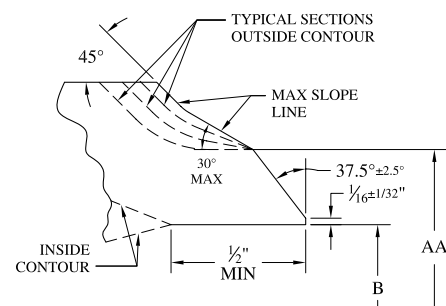
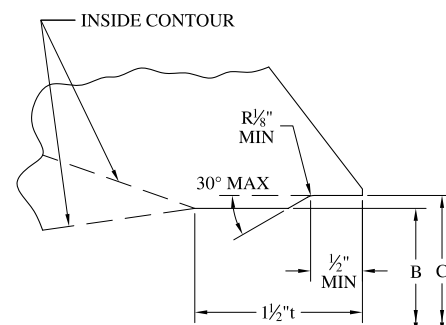

Fig. 1A.- Welding End for No Backing Ring or for Split Backing Ring. Pipe Wall Thickness "t" 7/8" and less.
Fig. 2.- Welding End for Continuous Rectangular Backing Ring (inside contour).*
When the thickness of the welding end of the valve is greater than that of the mating pipe, and when the additional thickness increases the outside diameter, a taper weld having a slope not exceeding 1:3 may be employed or the greater outside diameter may be extended back in a manner within the maximum slope lines indicated in Figs. 1A and 1B. The transition shall be of a shape avoiding sharp reentrant angles and abrupt changes in slope. The profile of the outside contour shall be at the manufacturer's option provided above conditions are met.
For a joint without a continuous backing ring, the inside contour of the valve end shall be bored to a diameter B to a depth of 1/2" min. The inside diameter of a valve end beyond this machined surface may be either larger or smaller than the inside diameter of the pipe. The transition shall be of a shape avoiding sharp re-entrant angles and abrupt changes in slope. See Figs. 1A and 1B. (Transition shape also applies to Figs. 2 and 3).
For a joint with a continuous rectangular backing ring, the contour of the valve end shall be a straight bore of diameter C, 1/2 in. deep. This depth is based on a backing ring 3/4 in. wide; but if a wider ring is used, the depth shall be increased to provide the 1/8 in. minimum end clearance indicated. See Fig. 2.
*See Figs. 1A and 1 for Outside Contours.
BORES: WALWORTH's standard practice for Class 150 and 300 cast steel valves is that butt welding ends be machined in accordance with Figs. 1A and 1B, bored to match the inside diameters of Schedule 40 pipe in sizes 12-inch and smaller, and of 0.375 inch Standard Wall Pipe in larger sizes, unless otherwise specified. Orders for all sizes of Class 600 and higher must specify the diameter of valves bore, type of backing ring, etc.